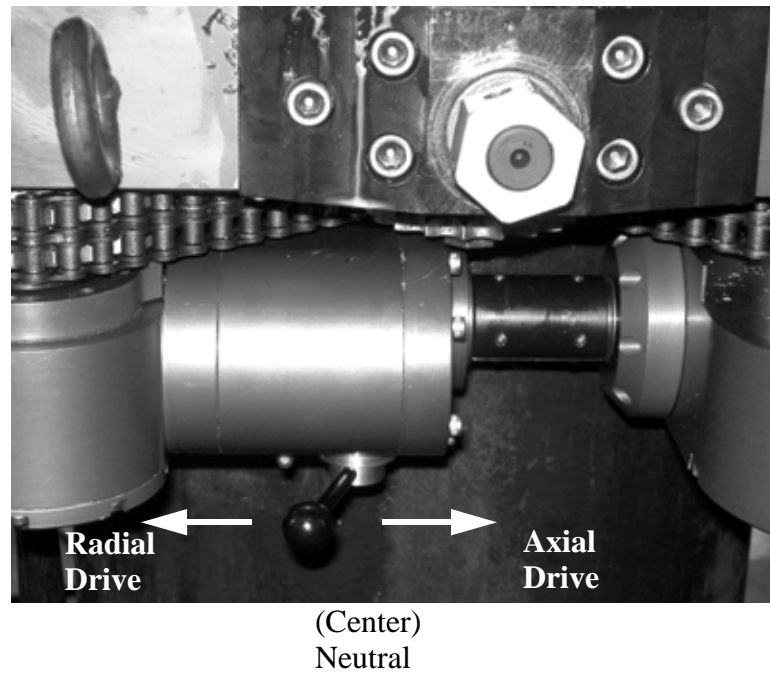

Figure 5-16. The photo shows the drive control lever at the bottom of the machine; directions are reversed when the controls are at the top.
When window cutting on a vertical pipe, perform the side and bottom cuts first, then the top cut. This keeps the cutter above the fall-off piece on the final cut. See the diagram in Figure 5-16.
- The drive control lever at the end of the machine. This lever has three positions, as shown in Figure 5-16.